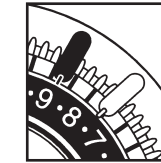

Figure 2
2. Be sure trippers are firmly pressed against dial surface and at least one space is left between ON and OFF trippers (Fig. 2).